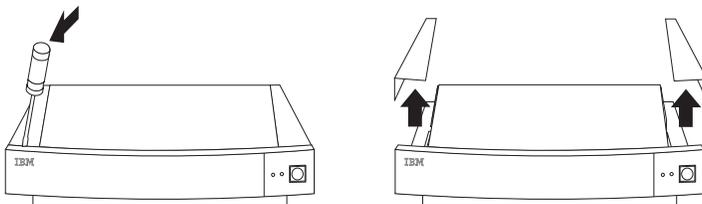

Figure 4-8. Access Station Wing Cover Removal
- Pry off the left and right wing covers as shown in Figure 4-8.